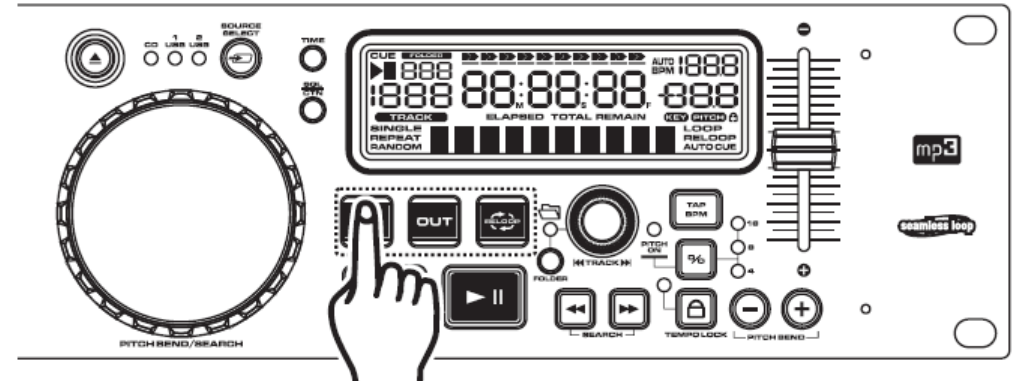

Figure 22
Press the IN button (17). This will set the starting point of the SEAMLESS LOOP (**Figure 22**).